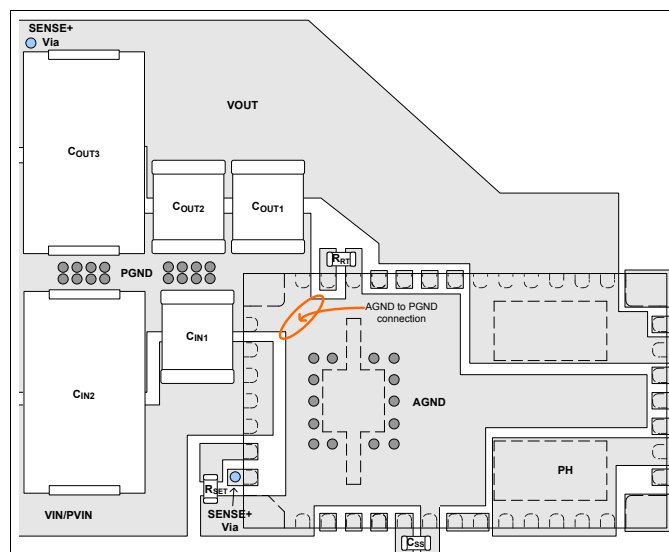
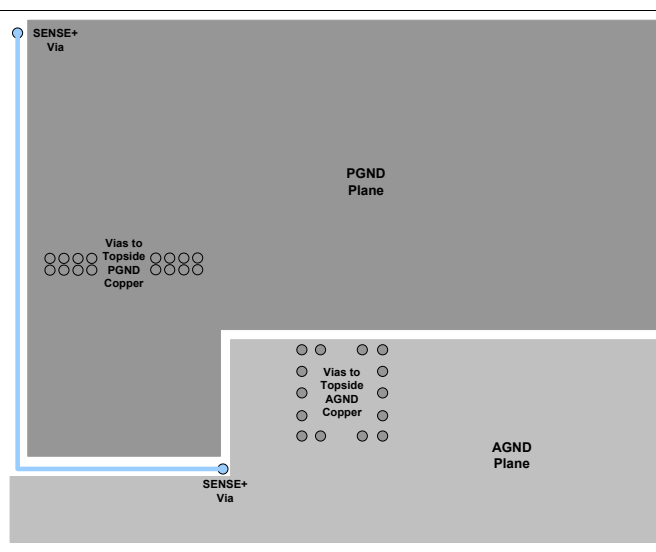

Figure 43. Typical Top-Layer Recommended Layout
Figure 44. Typical GND-Layer Recommended Layout
To achieve optimal electrical and thermal performance, an optimized PCB layout is required. Figure 43 and Figure 44 show two layers of a typical PCB layout. Some considerations for an optimized layout are:
- Connect the AGND and PGND copper area at one point; see AGND to PGND connection point in Figure 43.